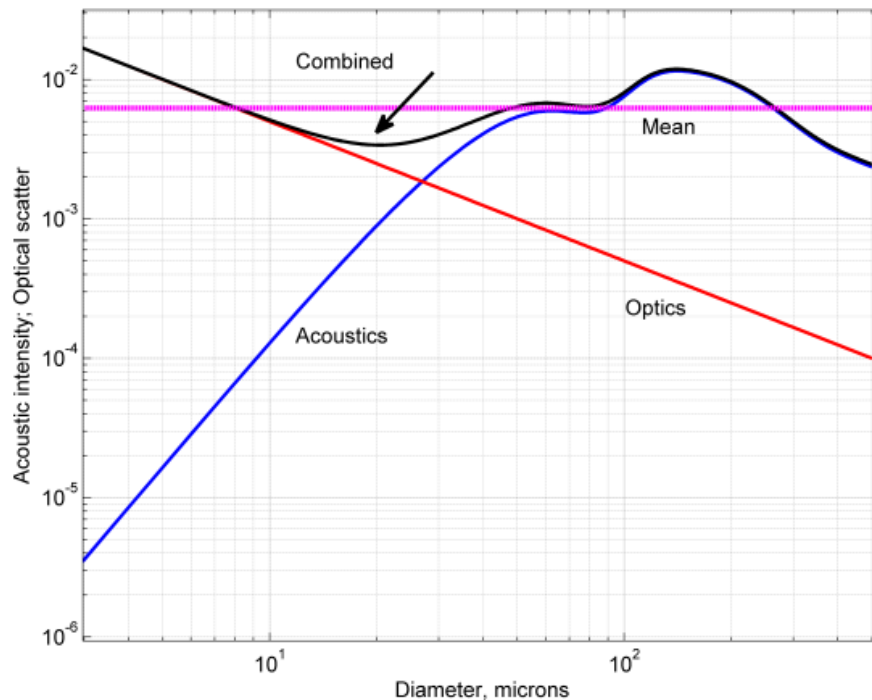

Figure 1—ABS and OBS response versus particle size
Figure 1 shows the contrast between the ABS (blue curve) and turbidity (red) sensor responses versus particle size. For particles larger than about 30 μm , the ABS response is relatively flat, while the response of the turbidity (OBS) sensor is strongest for smaller sizes.
Intuitively, we can see from Figure 1 that adding the two sensor responses will produce a curve that is “flatter” than either curve alone, but it is not obvious what value of P is optimum. From a combination of theory and experiment, we find that the optimum pairing factor is
- Version 1.1 Improved figure 1. March, 2020